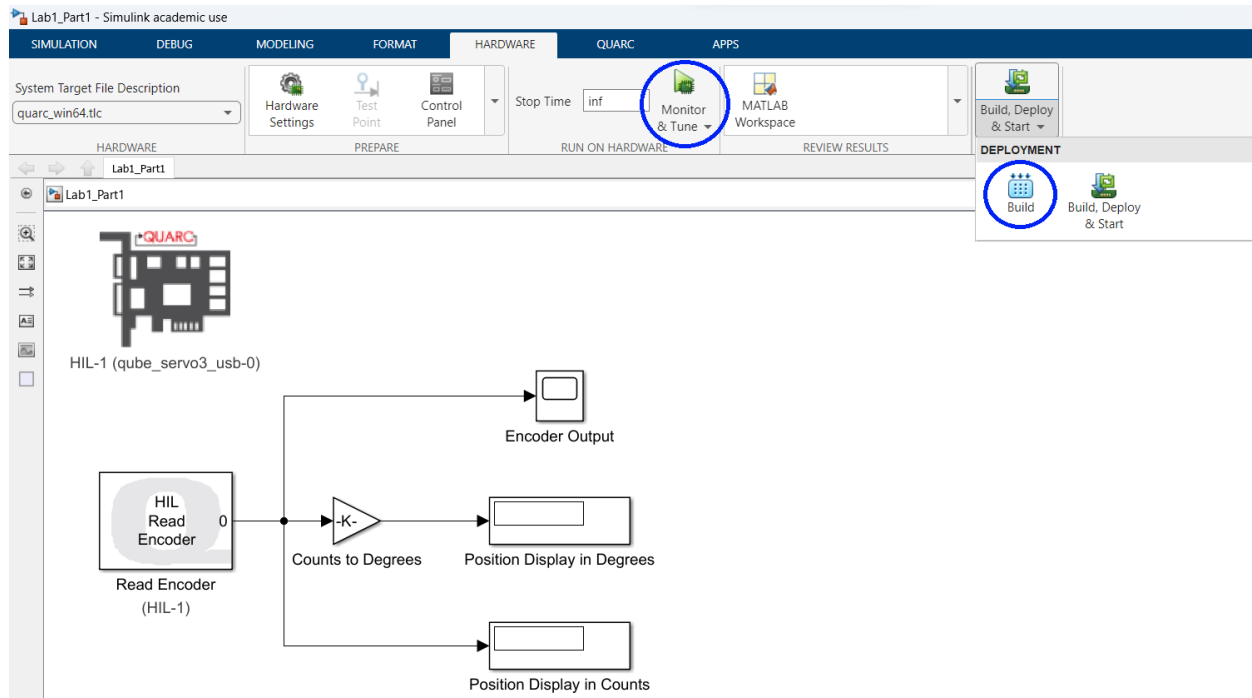

Figure 9: A view of the Simulink Model window for Part 1 with *Build* and *Monitor & Tune* buttons highlighted.
9. Now that we have made the model, we need to generate the code and run it. Open the “Hardware” tab shown at the top of Figure 9. Now build your Simulink model, i.e., press the “Build” button (shown in Figure 9 and accessible after pressing the down-arrow on the “Build, Deploy & Start” button). This will generate the corresponding code for each block in the model which can then be executed.
11. Next, in your Simulink model, press the “Monitor & Tune” button (shown in Figure 9) to run the model on the motor setup. If this step is successful, the top LED bar on the Qube-Servo 3 will turn green indicating that it is now in your Simulink model loop.
5. To generate the code for the model, open the “Hardware” tab and press the “Build” button (shown in Figure 9 and accessible after pressing the down-arrow on the “Build, Deploy & Start” button). This will generate the corresponding code for each block in the model which can then be executed.
7. Next, in your Simulink model, press the “Monitor & Tune” button (shown in Figure 9) to run the model on the motor setup. If this step is successful, the top LED bar on the QUBE-Servo 3 will turn green indicating that it is now in your Simulink model loop and the motor will start spinning. Open the scope (connected to the output of the motor) by double-clicking it in your model.